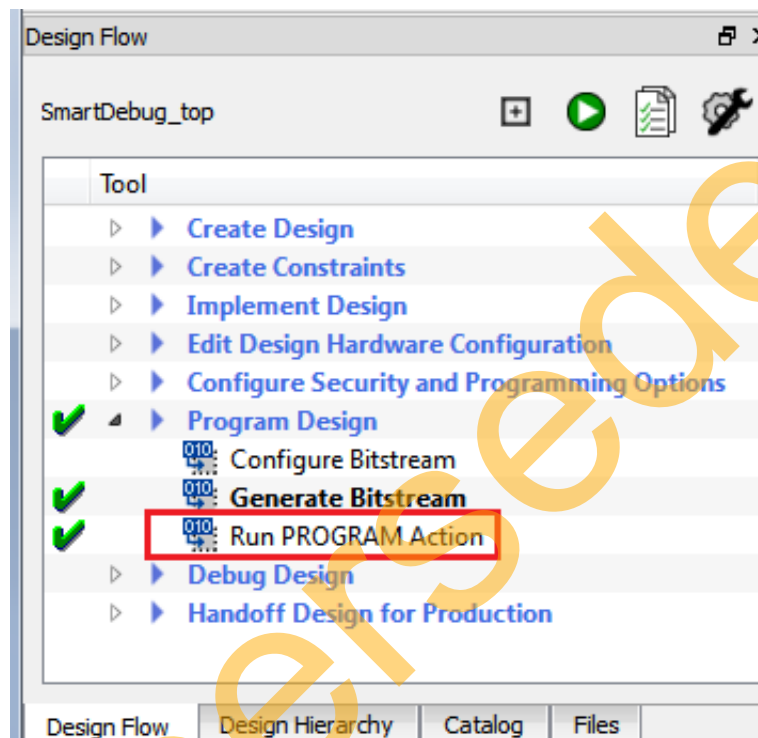

Figure 4 • Programming the Device
6. In the **Design Flow** window, select **Run PROGRAM Action**. This will program the design into the device, as shown in Figure 4.